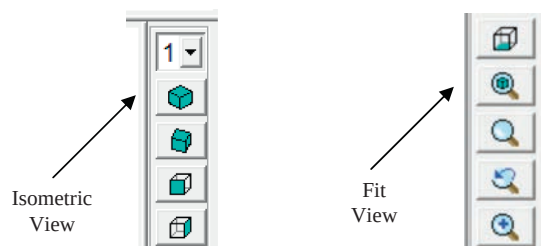

Figure 3-2-2 Isometric View (left) and Fit View (right) Buttons in the Graphic Window's Pan Zoom Rotate Shortcut Menu.
- Click the “Isometric View” button at the top of the Pan Zoom Rotate shortcut menu (Figure 3-2-2, left)
- Click the “Fit View” button in the middle of the Pan Zoom Rotate shortcut menu (Figure 3-2-2, right)